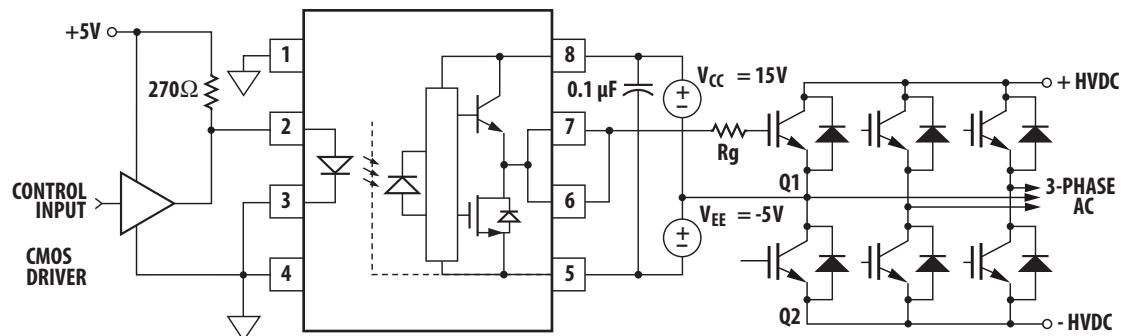

Figure 26. ACPL-312T typical application circuit with negative IGBT gate drive.
Step 1: Calculate R_g Minimum from the I_{OL} Peak Specification. The IGBT and R_g in Figure 26 can be analyzed as a simple RC circuit with a voltage supplied by the HCPL-3120.
For the circuit in Figure 26 with I_F (worst case) = 16 mA, R_g = 8 Ω , Max Duty Cycle = 80%, Q_g = 500 nC, f = 20 kHz and T_A max = 85C: